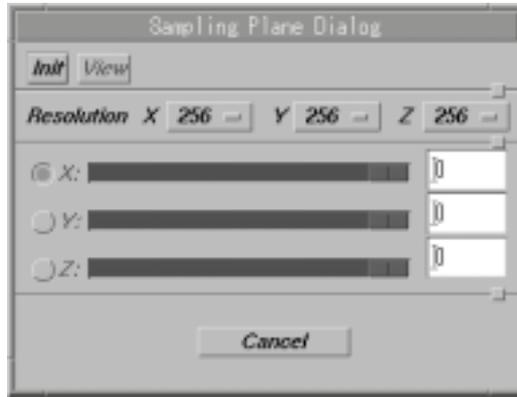

Fig. 7-19. Section Extraction Dialog
1. Click the **Cross Section** button on the panel at the left of the main window, and the section extraction dialog shown in Fig. 7-19 will be displayed.